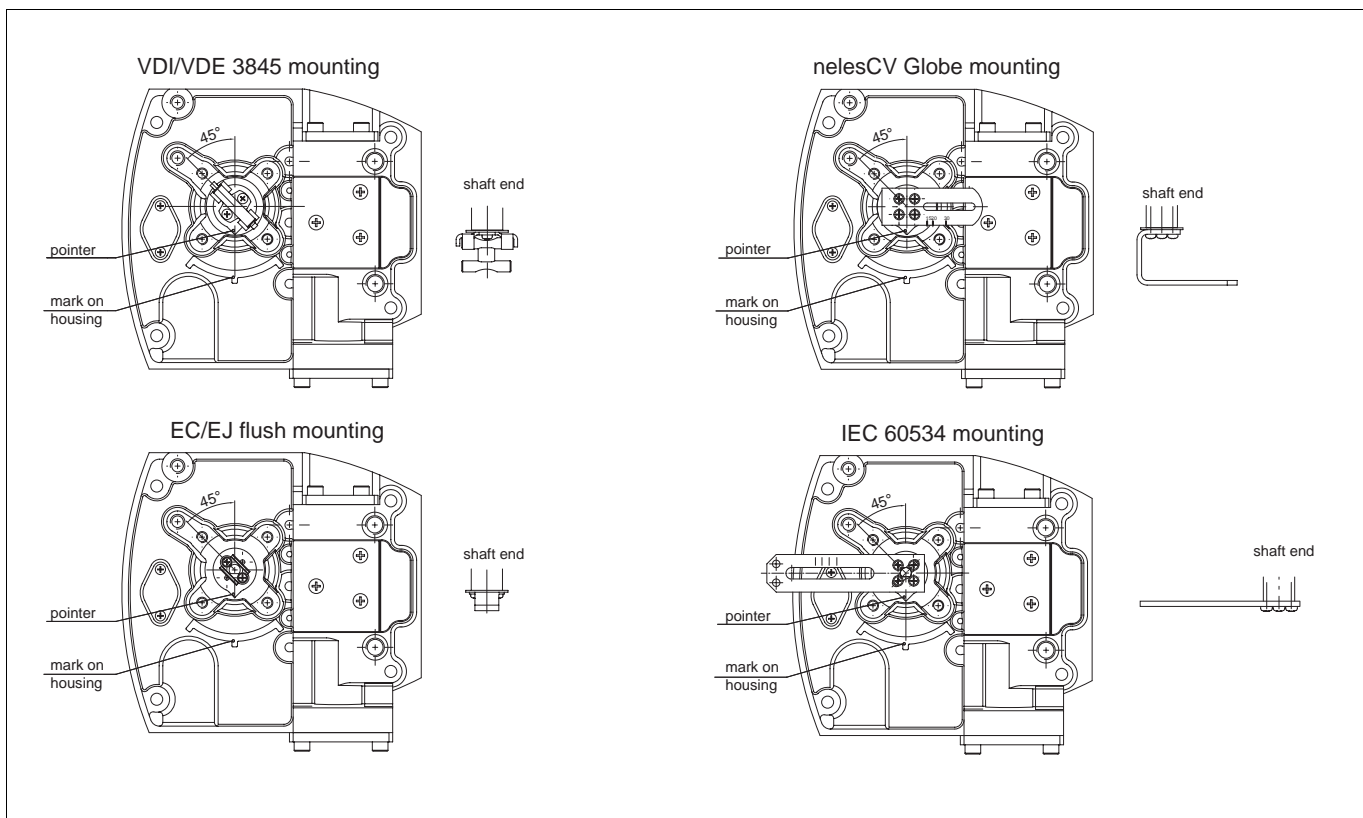

Fig. 5 Shaft coupling alternatives
Shaft coupling alternatives for the controller for Metso actuators are shown in Fig. 5.
- ❑ Mount the O-rings (38, 4 pcs.) into the air connections in the bottom of the controller and the mounting plate (64).
- ❑ Install the mounting plate (64) on the actuator as shown in 12.2.
- ❑ Place the valve controller on top of the actuator so that the pointer is located in the position shown in Fig.5.
- ❑ Fasten the screws (4).